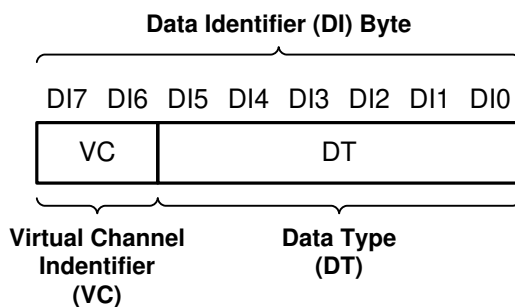

图 33. CSI-2 Data Identifier Structure
The DS90UB940N-Q1 MIPI CSI-2 protocol interface transmits the data identifier byte containing the values for the virtual channel ID (VC) and data type (DT) for the application specific payload data, as shown in 图 33. The virtual channel ID is contained in the two MSBs of the data identifier byte and identify the data as directed to one of four virtual channels. The value of the data type is contained in the 6 LSBs of the data identifier byte.